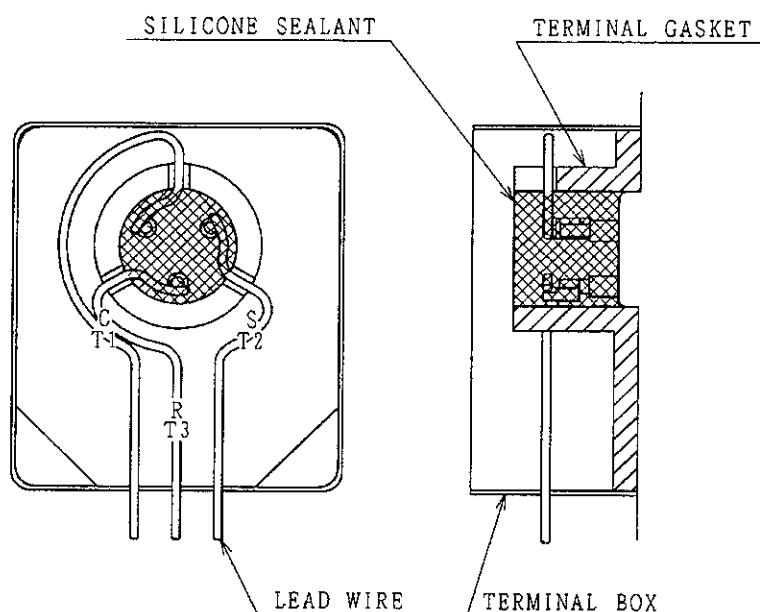

Fig. 1
- 18) Fill the recommended silicone sealant (RTV 162, GE Silicones) into the cylindrical part of the Gasket into the top end. See Fig. 1.